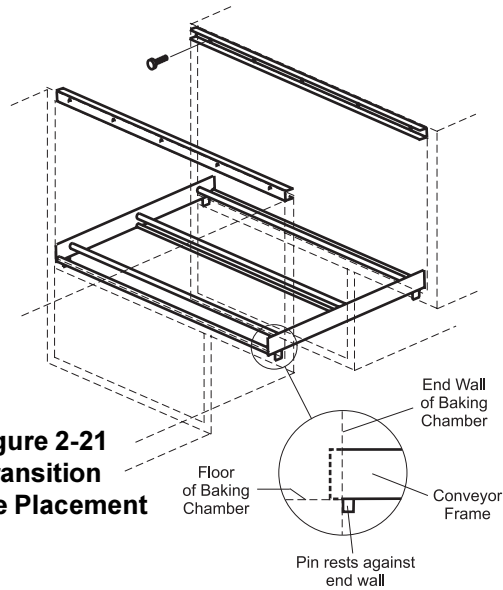

Figure 2-21
- Test-fit the transition section of the conveyor frame, as shown in Figure 2-21. The alignment pins on the bottom of the frame ensure correct spacing of the center ovens.